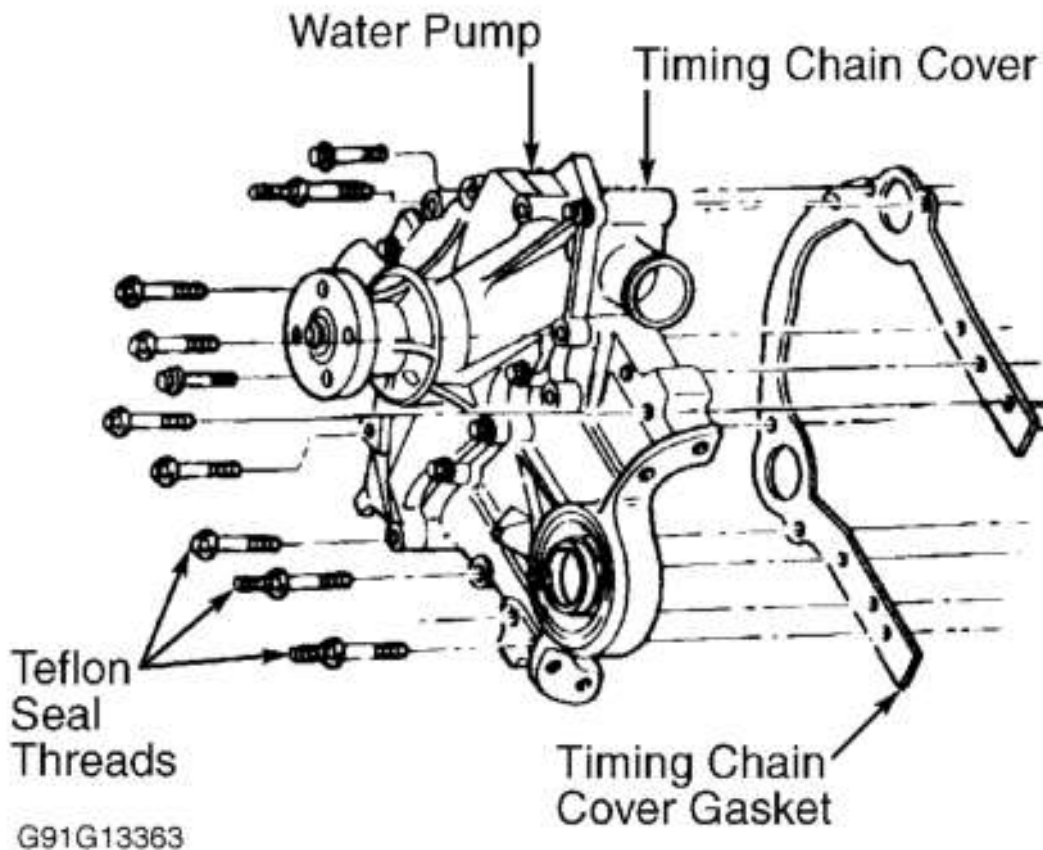

Fig. 6: Removing & Installing Water Pump & Front Cover Assembly
4. Remove oil pan. See **OIL PAN**. Remove 10 bolts retaining front cover and water pump assembly to engine. See **Fig. 6**. Remove front cover and water pump as an assembly.
1. Clean all gasket mating surfaces. Coat both surfaces of new front cover gasket with sealing compound. Install front cover gasket. Install front cover. Lightly oil threads of bolt and stud, except those with Teflon sealant, before installation. See **Fig. 6**.
2. Remove alternator adjusting arm and brace from throttle body. Remove lower radiator and heater hose from water pump. Rotate belt adjuster aside. Remove 11 water pump bolts. Remove water pump. See **Fig. 6**.
Clean all gasket surfaces. Lightly oil threads of bolt and stud, except those with Teflon sealant, before installation. Refer to **Fig. 6**. Use sealant on bolts going into water jacket. Apply contact adhesive to new gasket and position on water pump. Install water pump. To complete installation, reverse removal procedure. Fill and bleed system. See **COOLING SYSTEM BLEEDING**.